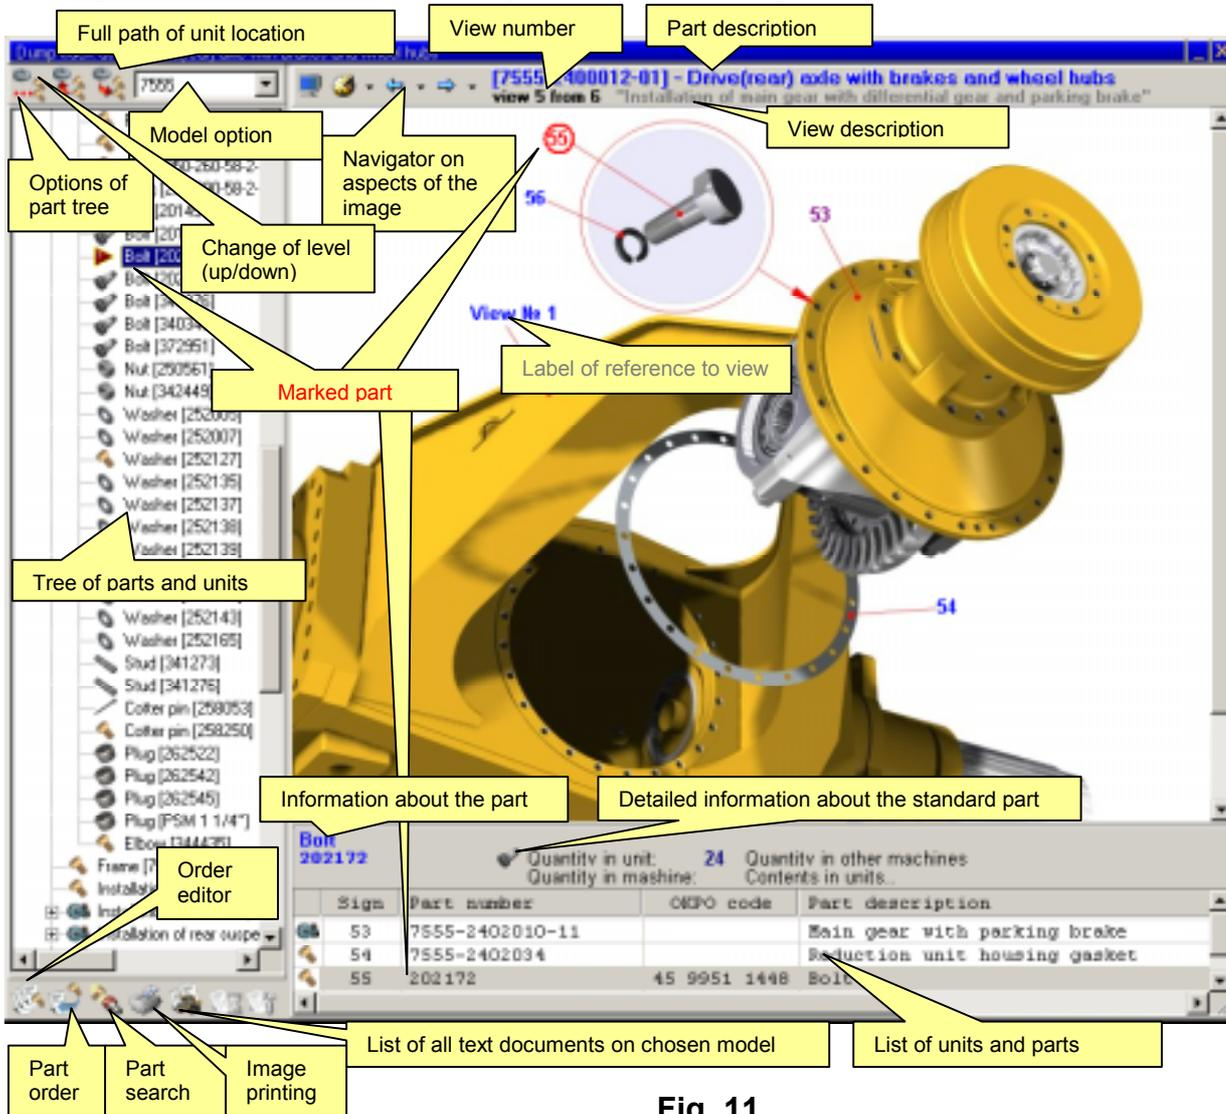

Fig. 11
The general outlook of the Catalogue is shown on Fig. 11.
If then you click on the mark by the mouse left button, corresponding part or unit will be marked out on the image, in the tree, and in the part list; an information about the part will also be shown. The mark of the part chosen will be shown red, and encircled in red, and the mark of the unit chosen will be shown as violet and encircled in red (see Fig. 11). When clicking on the view mark there will be transition to another image corresponding to the view number. When clicking on the mark of part reference, there will be transition to the corresponding part in the corresponding unit.
- Switch the full-screen mode  (see Fig. 11).